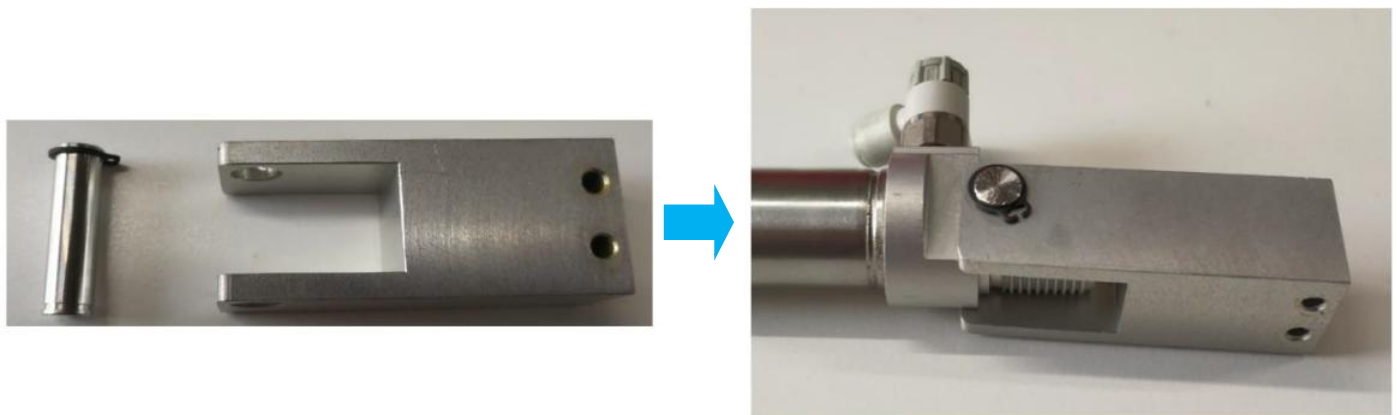

Figure 15
20. Assemble Rear Cylinder Holder & Dowel pin into New Outer barrier cylinder. May refer to below Figure 15